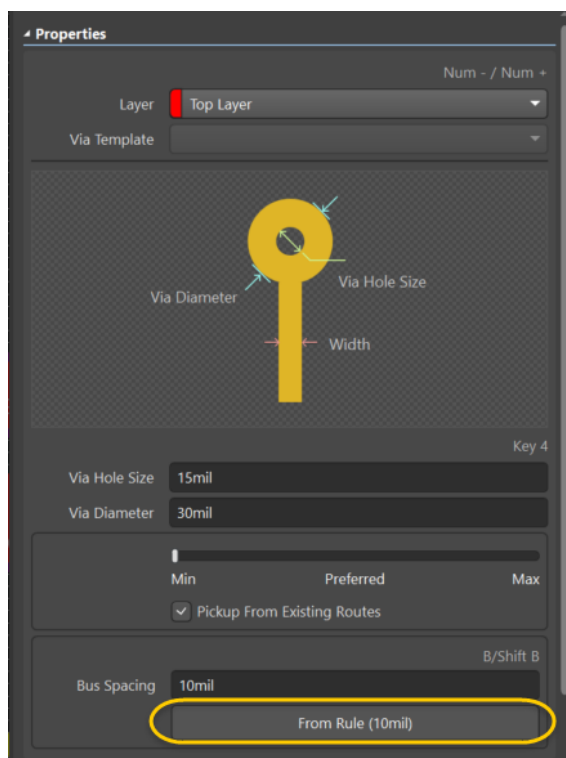

Figure 10. Bus Spacing from Rule
- c) Change the Bus Spacing to 10mil by pressing **From Rule (10mil)** as shown in Figure 10.